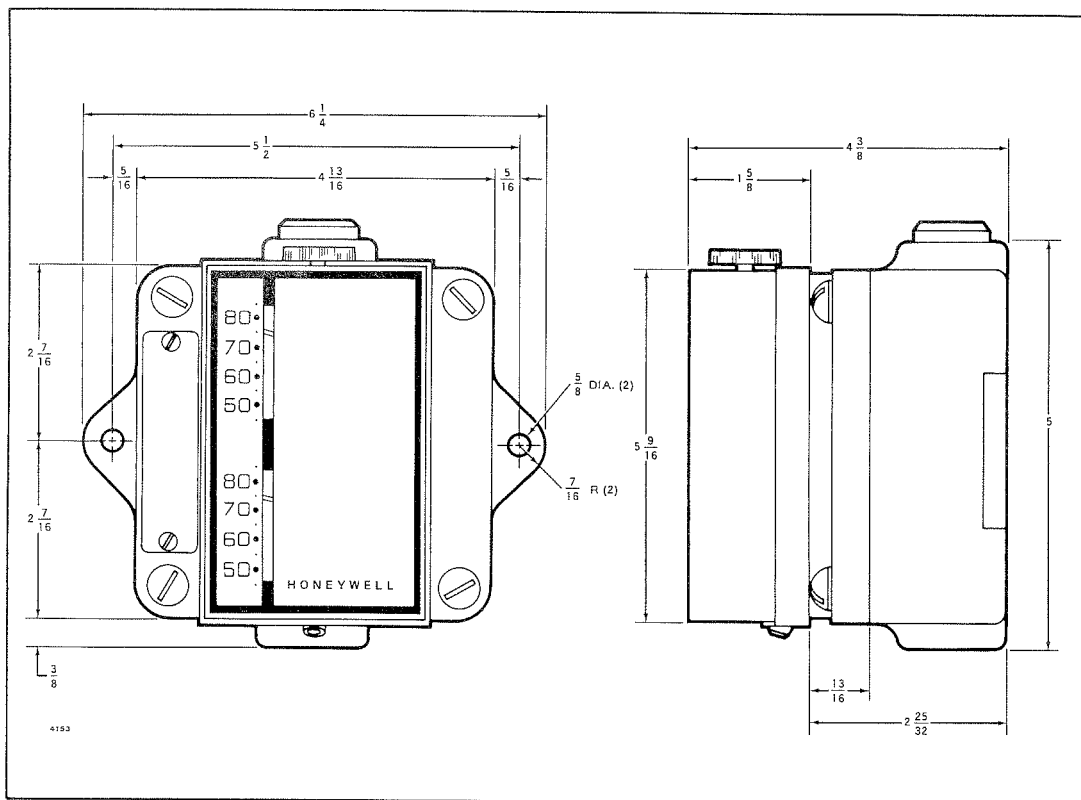

Fig. 1—Mounting dimensions.
2. After selecting a location, mount the explosion proof housing on the wall. See Figs. 1 and 2.